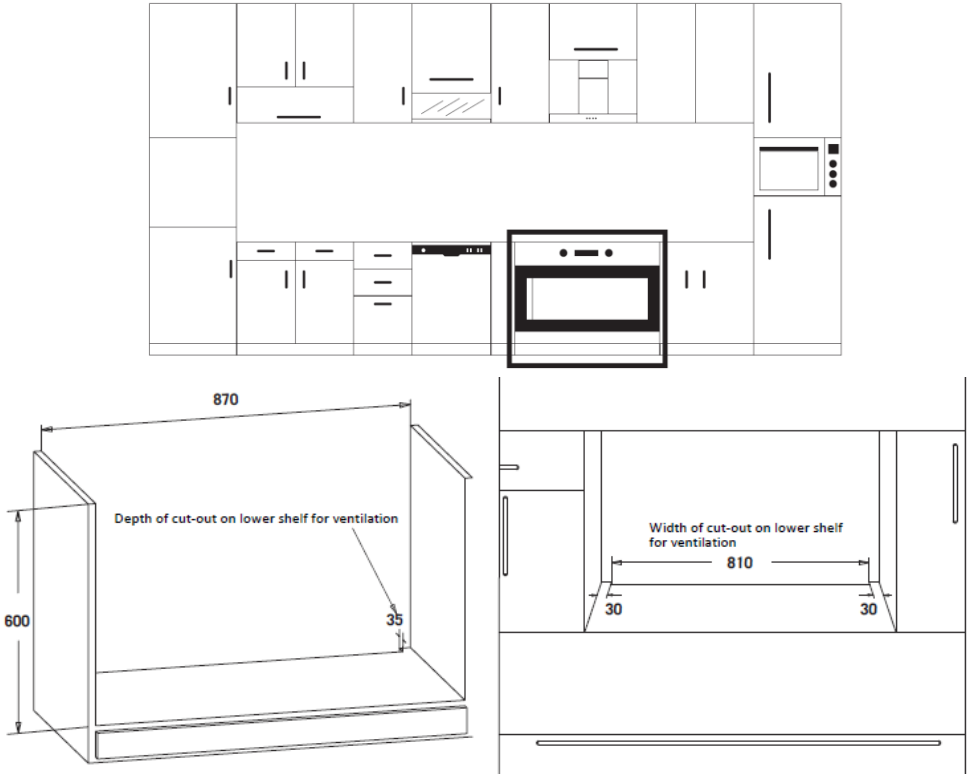

Figure 3
- Cabinet must match the dimensions provided in the figure 3 on earlier pages